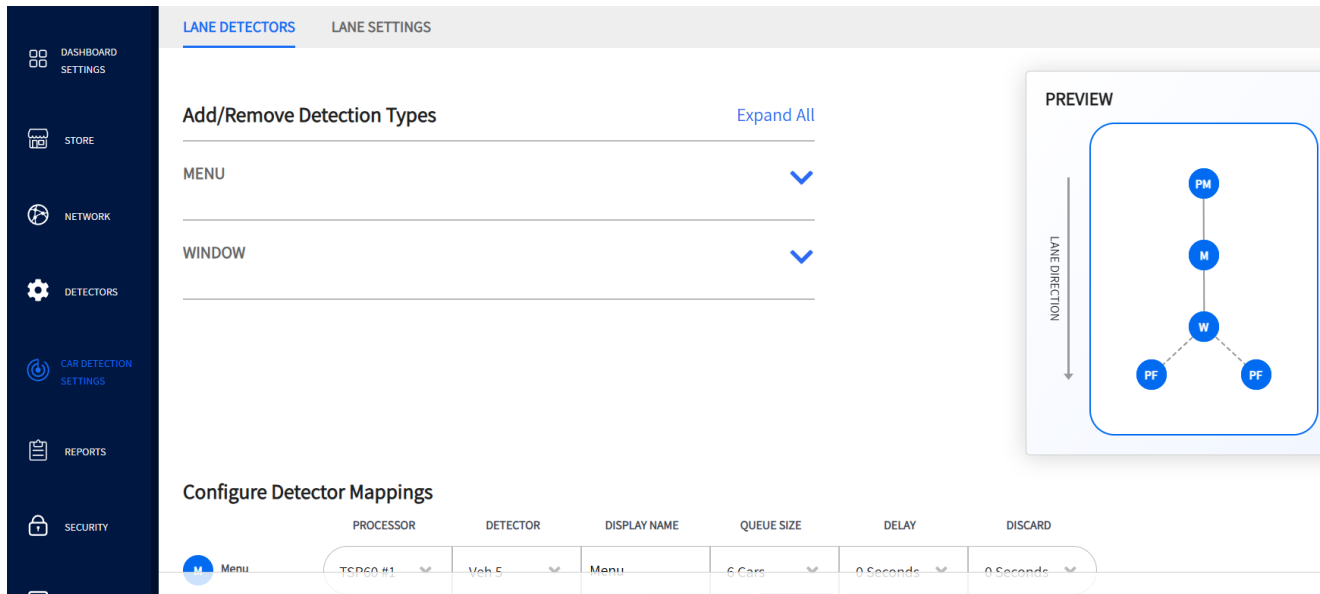

Fig. 7.1
Example: Fig. 7.1 shows a Single Lane store with one Pre-Menu (PM), one Menu (M), one Window (W), and two pull-forward detectors (PF). The PM and PF detectors shown in the Preview pane are camera-based detectors and are configured on the **DETECTORS** screen, not here. So only Menu and Window are displayed under Add/Remove Detection Types as they are controlled by the TSP60.